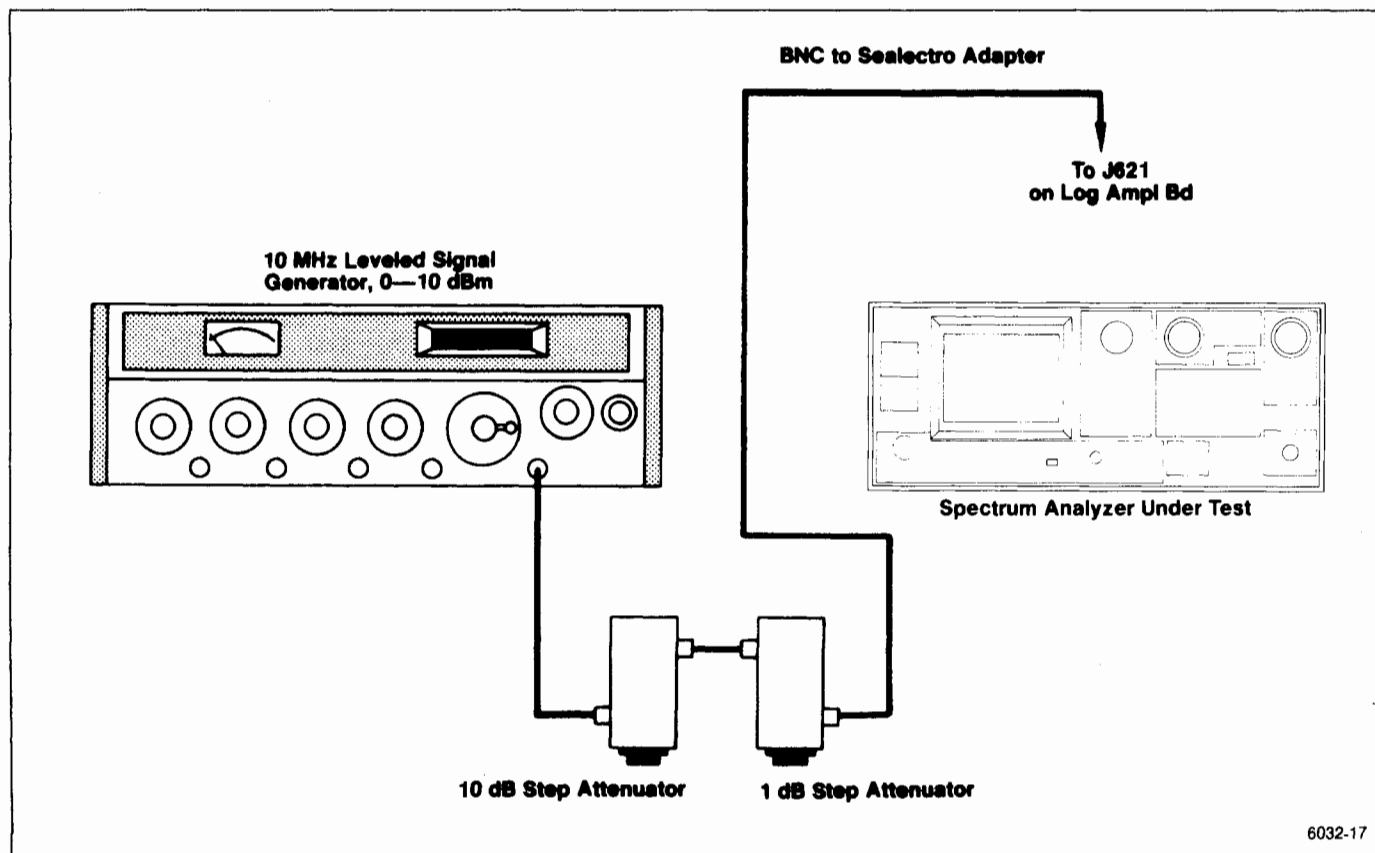
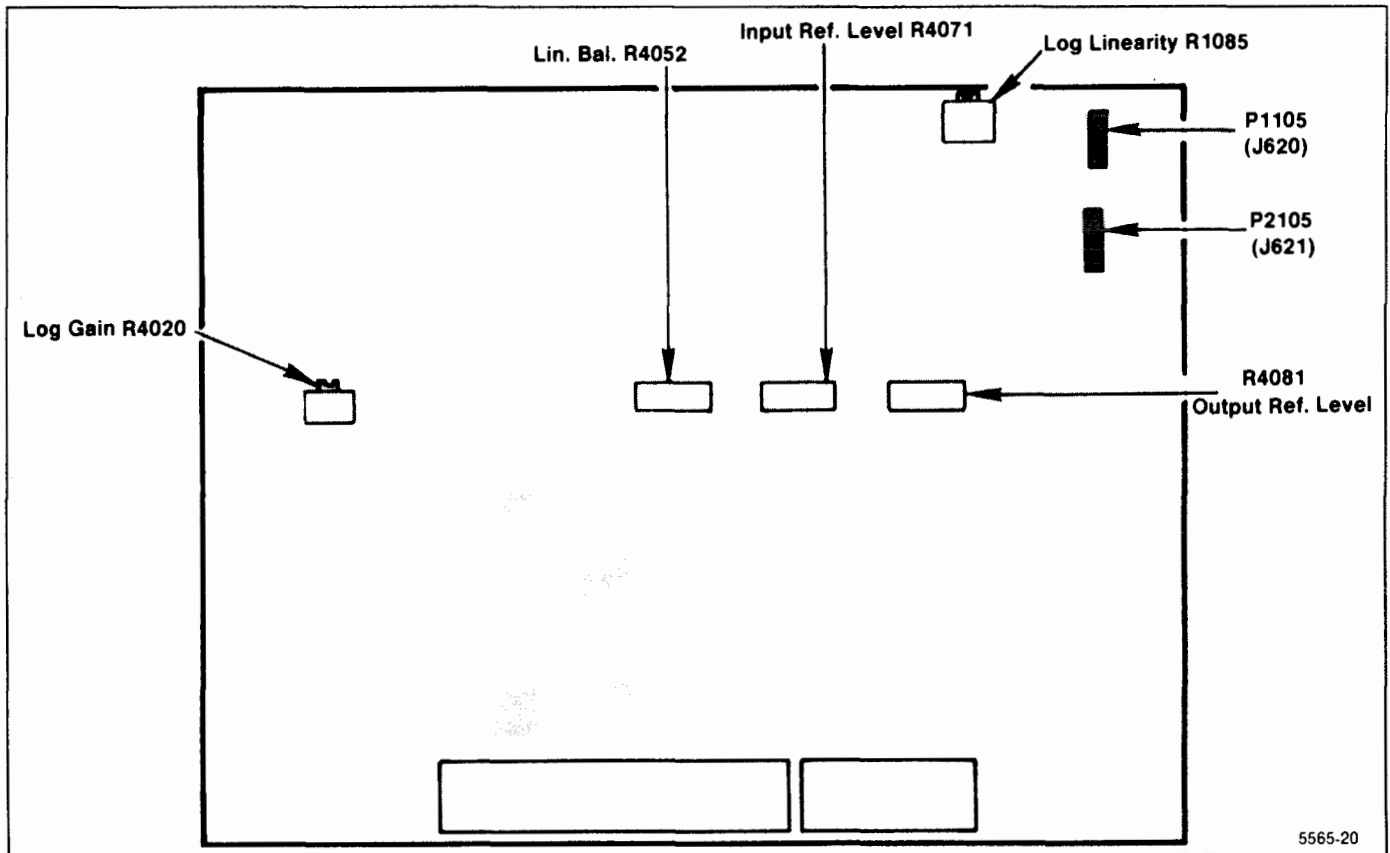

Figure 5-14. Test equipment setup for adjusting the Log Amplifier.
Figure 5-15. Log and Video Amplifier test point and adjustment locations.
- c. Connect the test equipment as shown in Figure 5-14. (P621 must be removed in order to access J621 on the Log Amplifier board. See Figure 5-15.) Set the Spectrum Analyzer controls as follows:
i. Adjust the Log Gain, R4020 (Figure 5-15) so each 10 dB increment of attenuation results in one major division of change on the display.
k. Adjust Input Ref Level, R4071 (Figure 5-15) for minimum amplitude change between the 10 dB/DIV and 2 dB/DIV displays while alternately switching the VERTICAL DISPLAY between 10 dB/DIV and 2 dB/DIV.
n. Adjust Output Ref Level, R4081 (Figure 5-15) for a full screen (eight divisions) display.
o. Switch to the 10 dB/DIV mode and set the step attenuators for 40 dB of attenuation. Adjust Log Linearity, R1085 (Figure 5-15) so the display is mid-screen.
u. Press LIN and adjust Lin Mode Balance, R4052 (Figure 5-15) for a full screen display. Amplitude of LIN, 2 dB/DIV, and 10 dB/DIV display should now be the same.